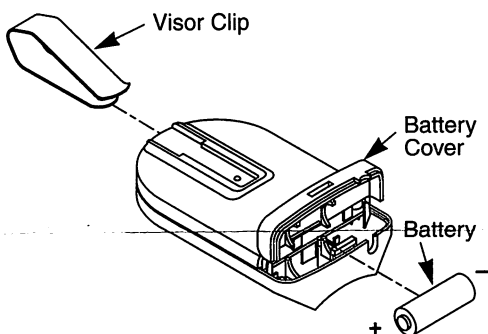

Fig. 3
Step 5-3 Attach Visor Clip to Transmitter Fig. 3 .